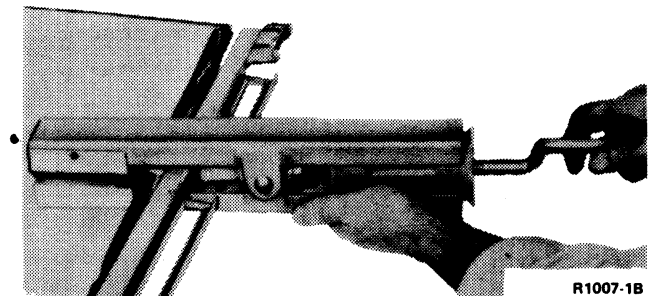

FIG. 3 Glass Channel Replacement
8. Remove the glass channel from the glass with the tool shown in Fig. 3.
1. Install the glass channel on the glass with the tool shown in Fig. 3.
7. Remove the glass from the glass channel with the tool shown in Fig. 3.
1. Install the glass in the glass channel with the tool shown in Fig. 3.